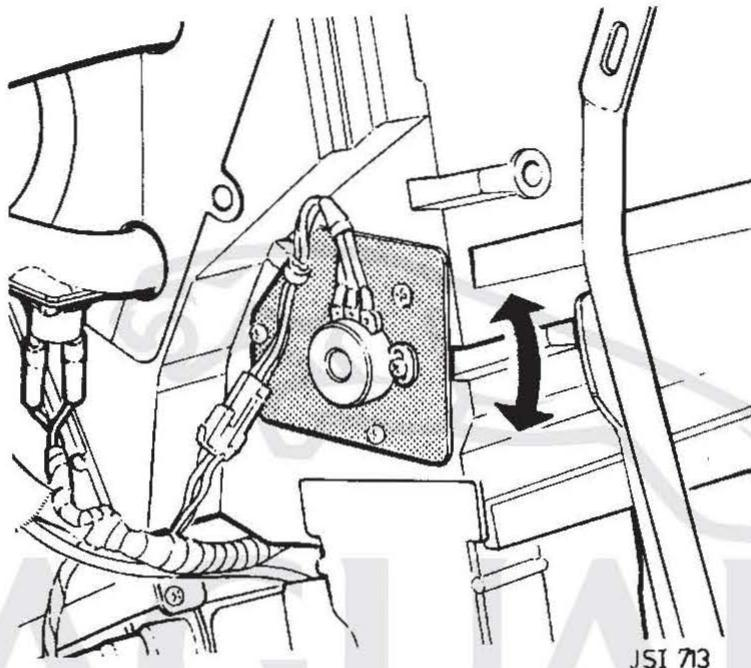

FIG 6
- 2) Anti-clockwise for warmer air at the footwell outlets to overcome inverted temperature differentials (Fig 6).